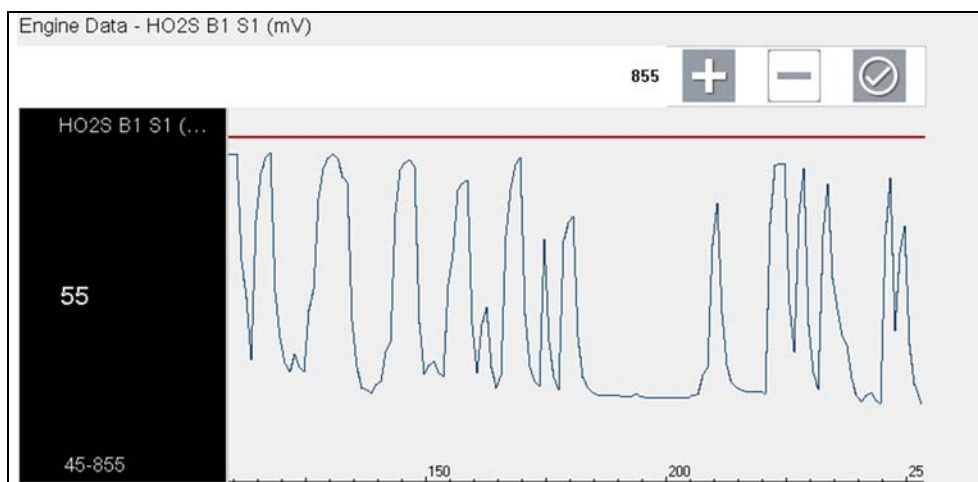

Figure 6-26 Trigger setup - upper limit
A graph of the highlighted PID and setup icons display (*Figure 6-26*).
The upper trigger point must be set first. A red horizontal line is displayed across the data graph (*Figure 6-26*) representing the upper trigger point.
4. Use the plus (+) and minus (-) icons (*Figure 6-26*), or the up ▲ and down ▼ arrow buttons to change the position of the upper trigger point.